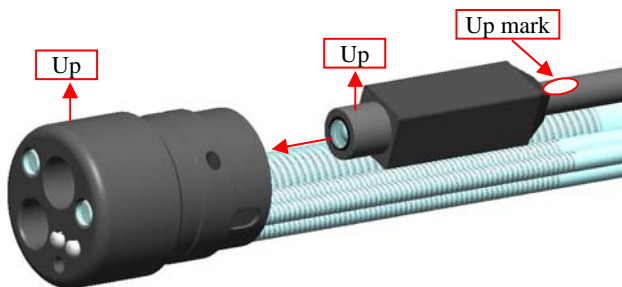

Fig.7-2-5
- e) Introduce CCD Module into the Distal Body keeping the Up-direction and remove excessive SS-5. (Fig.7-2-5)